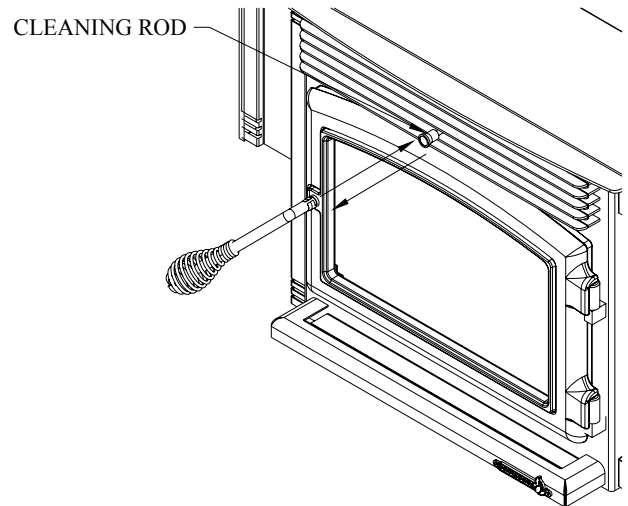

Figure 43
- a. **Heat Exchange Tubes** – Your BIO-35 stove is designed with a built-in heat exchanger tube cleaner. This should be used weekly to remove accumulated ash on the tubes. Slide the cleaning rod back and forth two or three times from front to back (refer to figure 43). When finished, push the cleaning rod back in, behind the louvers.